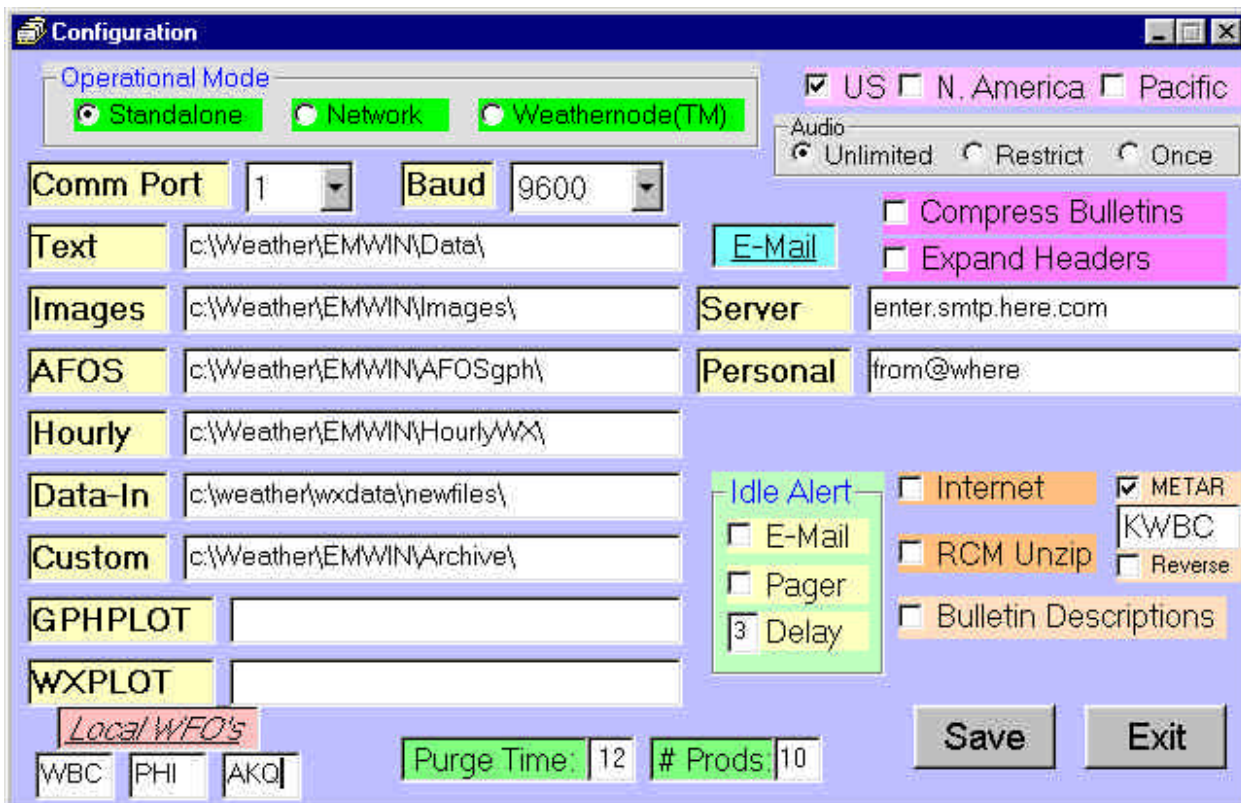

Figure 7 RealEMWIN System Configuration Window
- c. Select **File** and click on **CONFIGURATION**. The Configuration window displays (see **Figure 7**).